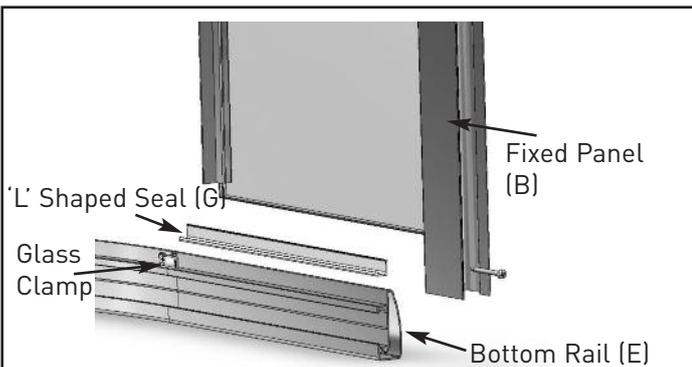

Figure a9
9. Lay the Bottom Rail (E) onto the floor in front of the tray ensuring that the smooth outside face of the rail is facing away from the tray. Assemble the two Fixed Panels (B) to the bottom of the rail as shown in Figure a9 ensuring that the 'L' Shaped Seals (G) are placed between the Bottom Rail (E) and the glass. Fix these in place using two 40mm screws (P).